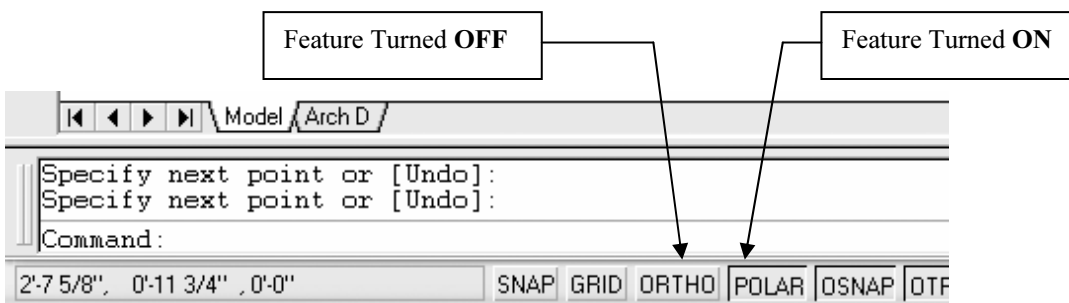

Figure 2-1.9 Status Bar – shown with Polar (i.e., Polar Tracking) turned on.
14. On the *Status Bar*, make sure **Polar Tracking** is turned on. (Figure 2-1.9). *It should look like a button pushed in (i.e., ON).*